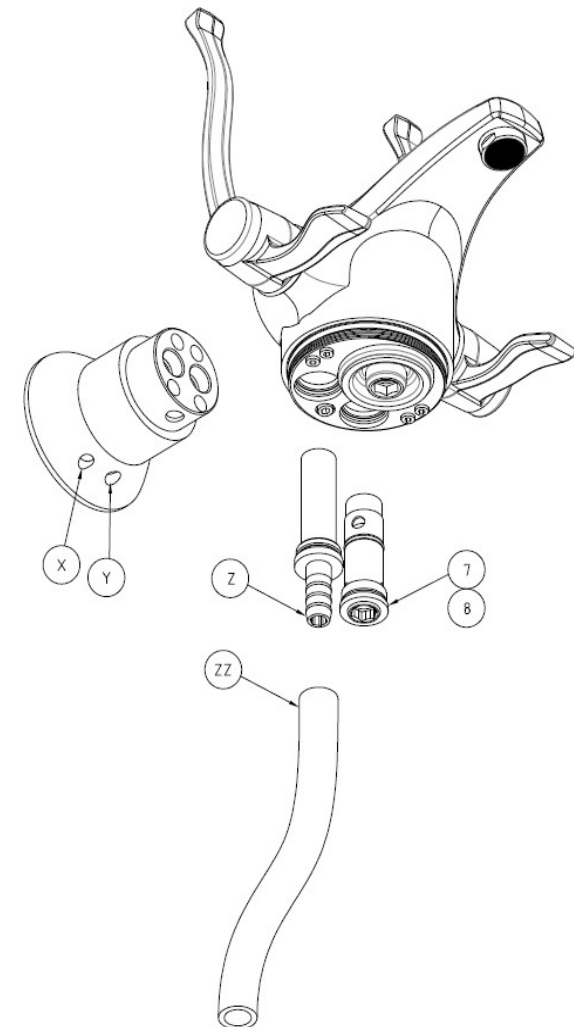

Figure 3 - Pipe Flushing (Tap In-Situ)
1.2.5 Close the ball valves (X,Y; Figure 3, page 3) in the spigot and test for leaks. Once this part of the installation is confirmed to be watertight, and the hot and cold supplies are confirmed to be connected correctly
2.3.1 To check the temperature of the incoming hot water, ensure supplies are isolated using ball valves (X, Y) located underneath the tap spigot and follow steps 1.4.3 and 1.4.4 (page 3) for removal of the strainer/check valve cartridge on the hot side only (see also Figure 3, page 3).
2.3.2 Screw the flushing adaptor (Z, Figure 3) into the space vacated by the hot inlet cartridge assembly (8).